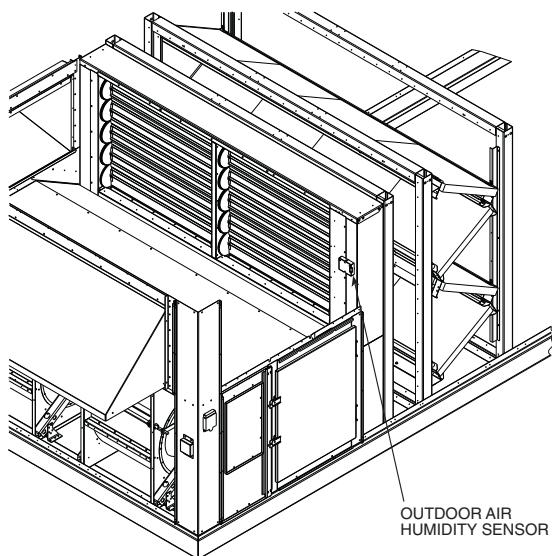

Fig. 6 — Typical Outdoor Air Humidity Sensor Location for 48/50P and 48/50Z Series Units
2. Remove the economizer side hood and filters to gain access to the location where the humidity sensor will be mounted. See Fig. 6.
3. Install the humidity sensor using the screws provided. See Fig. 6. Attachment holes are pre-punched.